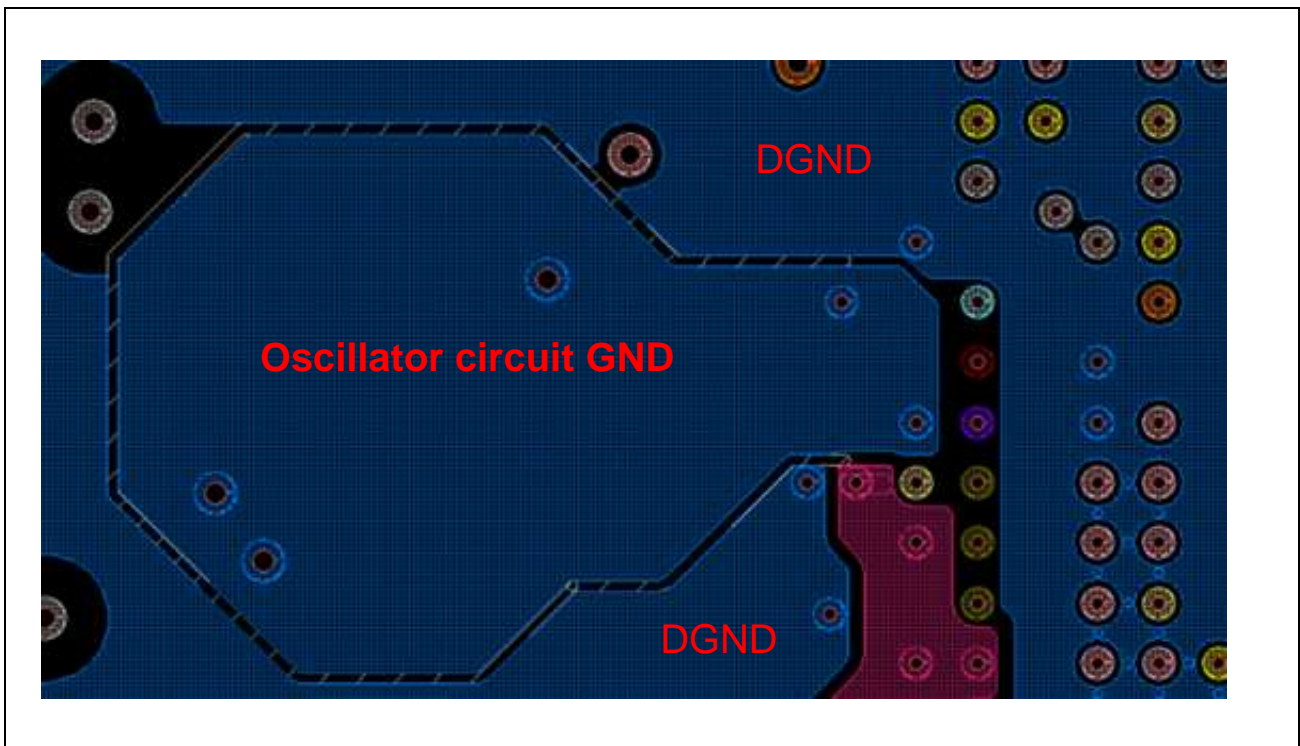

Figure 3.4 Example layout of the second layer (Layer2) of the PCB
**Figure 3.4** shows a layout example of the second layer (Layer2) of the PCB.